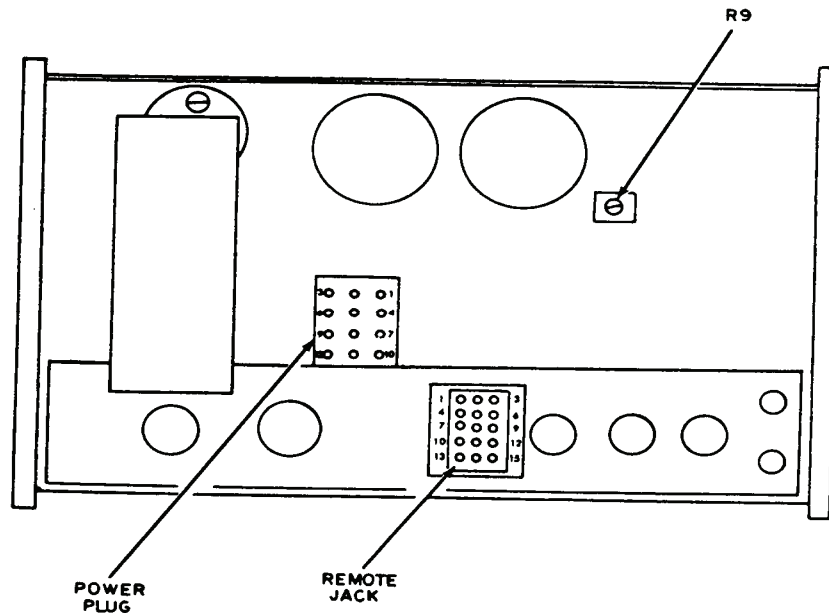

Figure 4. Power supply - (rear view).
- (1) Connect multimeter to pin 6 on power plug and chassis ground (fig. 4).
- (2) If multimeter does not indicate between +17.90 and +18.10 V dc, perform **b** (1) below.
- (3) Connect multimeter to pin 4 on power plug and chassis ground (fig. 4).
- (4) Multimeter will indicate between -17.50 and -18.50 V dc.
- (5) Connect multimeter to pin 5 on power plug and chassis ground (fig. 4).
- (6) Multimeter will indicate between -19.70 and -20.3 V dc.
- (7) Connect multimeter to pin 3 on the remote jack and chassis ground (fig. 4).
- (8) Multimeter will indicate between -15.90 and -16.10 V dc. Record indication.
- (9) Connect multimeter to pin 2 on the remote jack and chassis ground (fig. 4).
- (1) Adjust R9 (fig. 4) until multimeter indicates +18 V dc (R).
(1) Connect oscilloscope to pin 2 of remote jack and chassis ground (fig. 4). Record exact amplitude.
(2) Connect oscilloscope to pin 3 of remote jack and chassis ground (fig. 4). Record exact amplitude.
(3) Connect oscilloscope to pin 10 of remote jack and chassis ground (fig. 4).
(4) If the positive and negative peaks do not agree precisely with recordings in (2) and (3) above, perform **b** below.
(5) Connect oscilloscope to pin 15 of remote jack and chassis ground (fig. 4).
(6) If the positive and negative inverted peaks do not agree precisely with recordings in (2) and (3) above, perform **b** below.
(1) Connect oscilloscope to pin 10 of remote jack and chassis ground (fig. 4).
(3) Connect oscilloscope to pin 15 of remote jack and chassis ground (fig. 4).